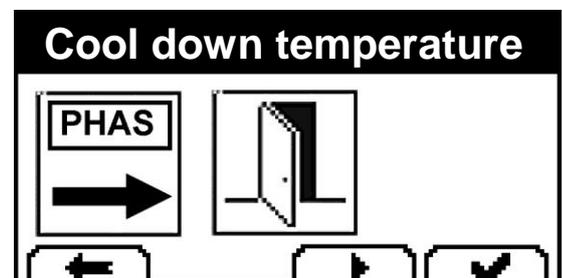

Fig. 5.15
- Select the final cooling temperature. Increase or decrease the final cooling temperature with the  and  keys (Fig. 5.15)